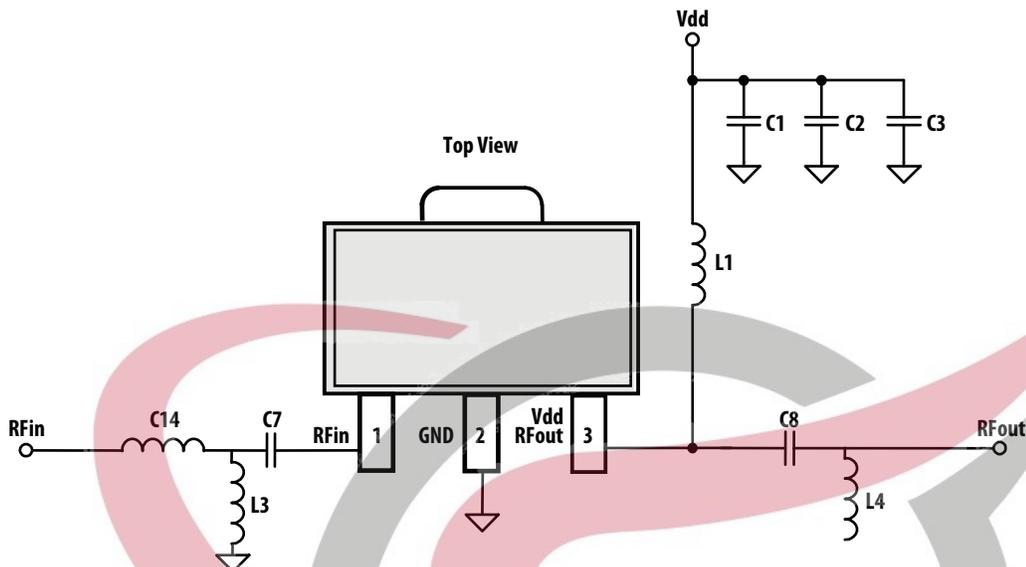

Figure 30. Application Schematic
1. Measurements obtained using demo board described in Figure 30 and 31. 3.5GHz data was taken with 3GHz - 4GHz Application Test Circuit and 5GHz data with 1.5GHz - 2.6GHz Application Test Circuit respectively.
$T_A = 25^\circ\text{C}$, $V_{dd} = 5\text{V}$, Input Signal=CW. Application Test Circuit is shown in Figure 30 and Table 2.
$T_A = 25^\circ\text{C}$, $V_{dd} = 5\text{V}$, Input Signal=CW. Application Test Circuit is shown in Figure 30 and Table 3.